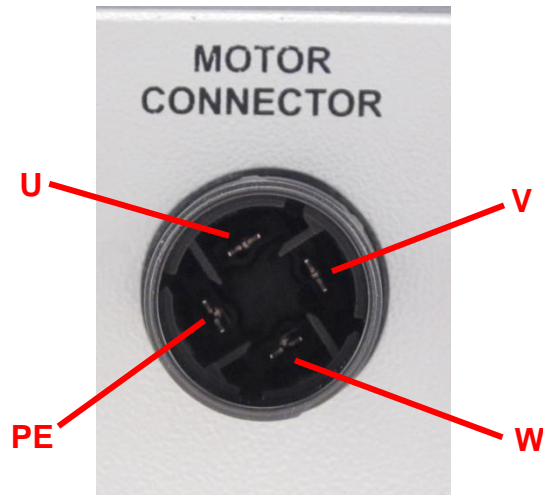

Figure 3.6. Description of the motor connection.
- 2. Connect the pump motor (Figure 3.6). Check, that the inverter output phases are connected, so that the rotation of the pump motor will be according to the proper direction specified on the pump.**
On *Figure 3.6* you can see the description of the motor connection.